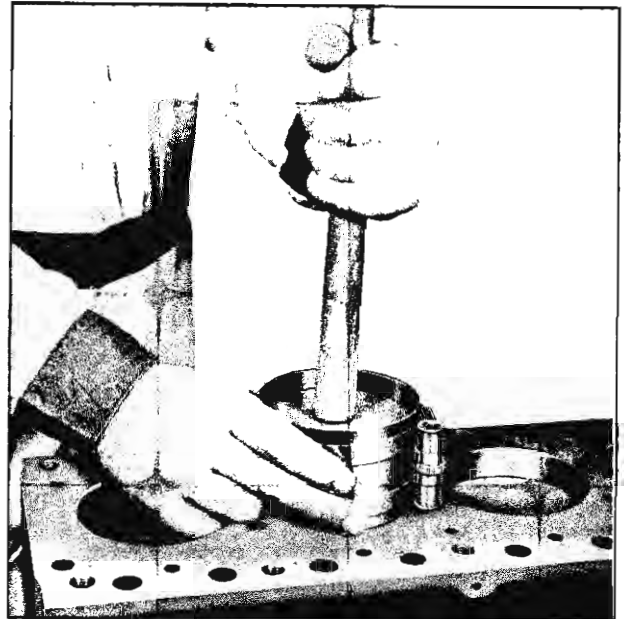

Fig. 38—Installing Piston in Cylinder Bore
1. Lubricate pistons and cylinder bores, remove bearing caps and install piston and rod assemblies using Tool J-8037 (fig. 38).